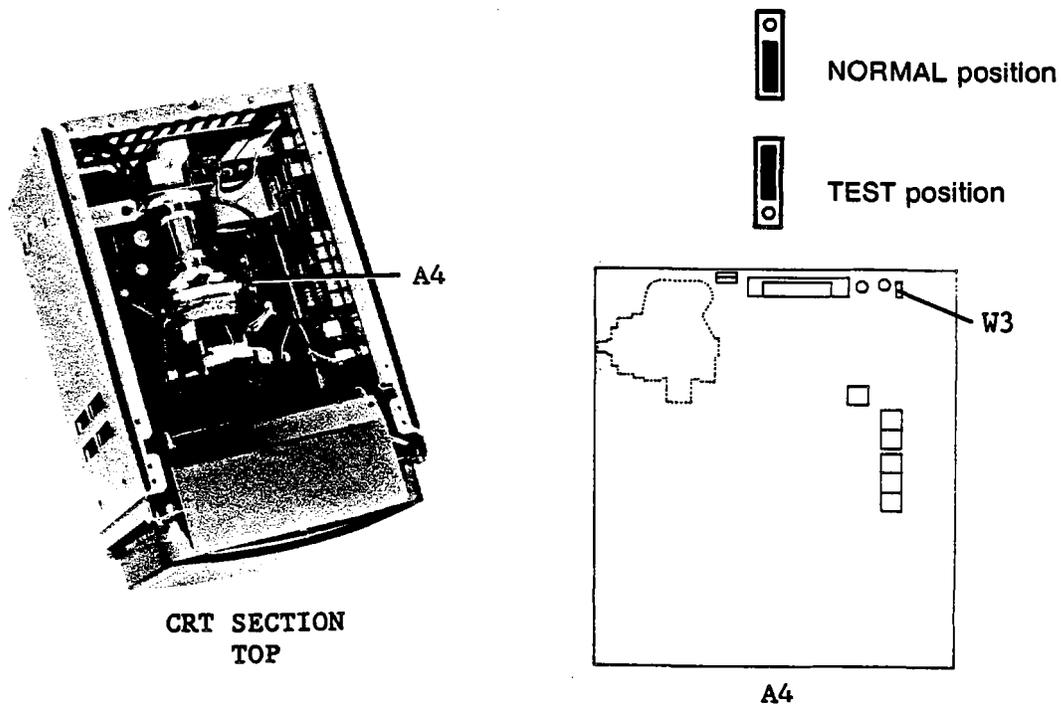

Figure 3-21. CRT Cutoff Test Jumper Locations
3. Set jumper A4W3 to the TEST position as shown in Figure 3-21.
10. Reset jumper A4W3 to the **NORMAL** position as shown in Figure 3-21.